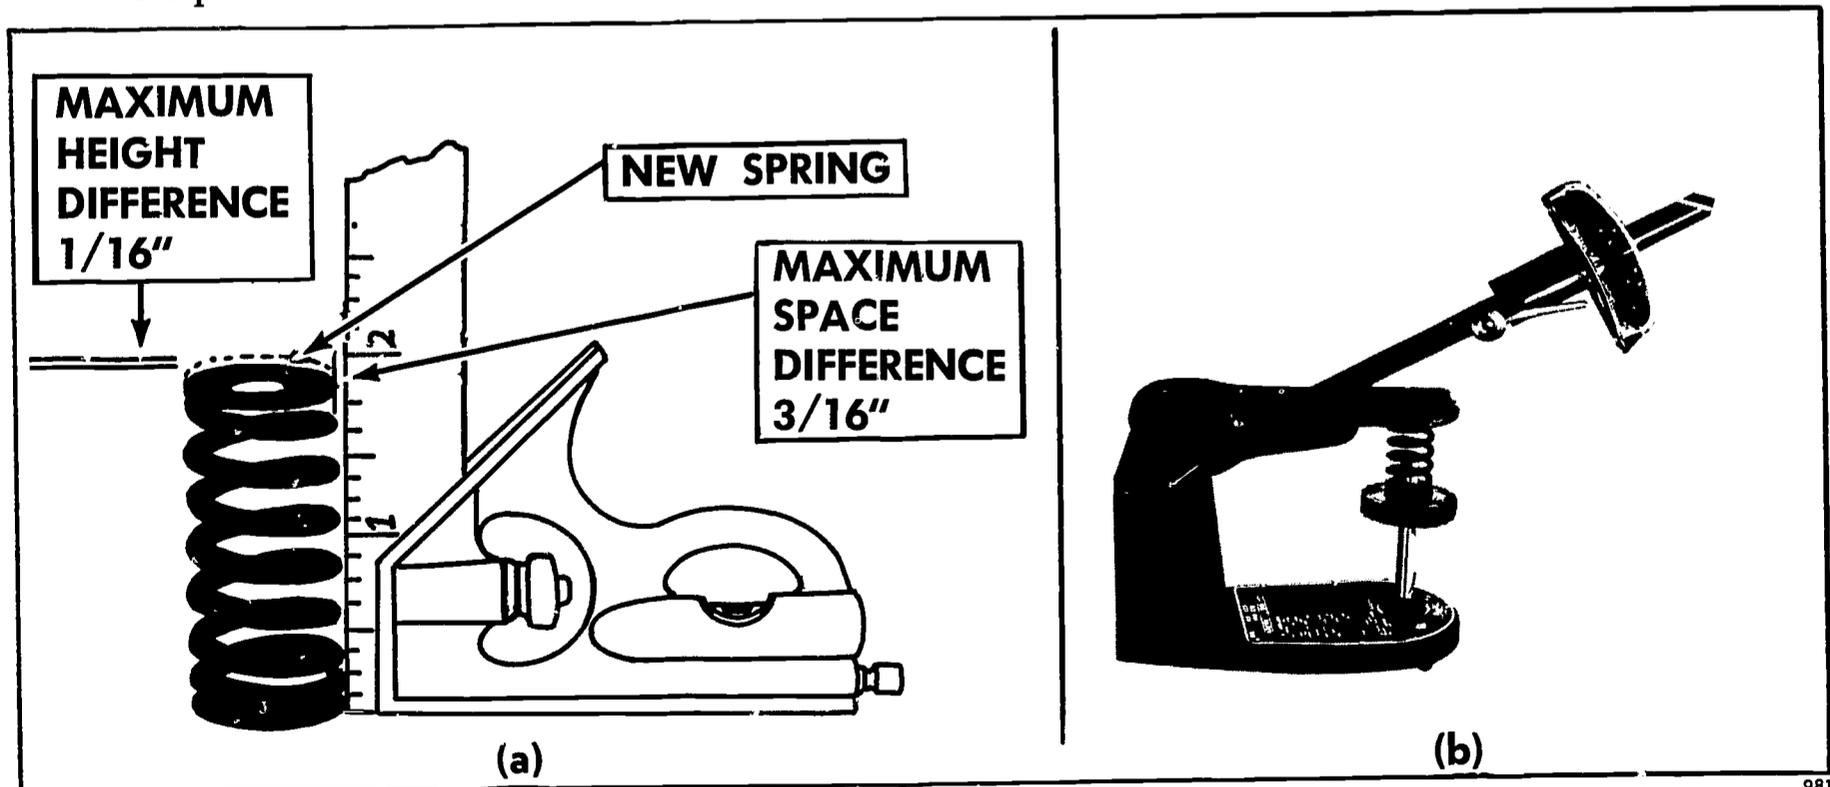

FIGURE 199. Checking the valve-tension. (a) Measuring the expanded length. (b) Checking with a tension tester.
3. *Inspect the valve springs (Figure 199).*